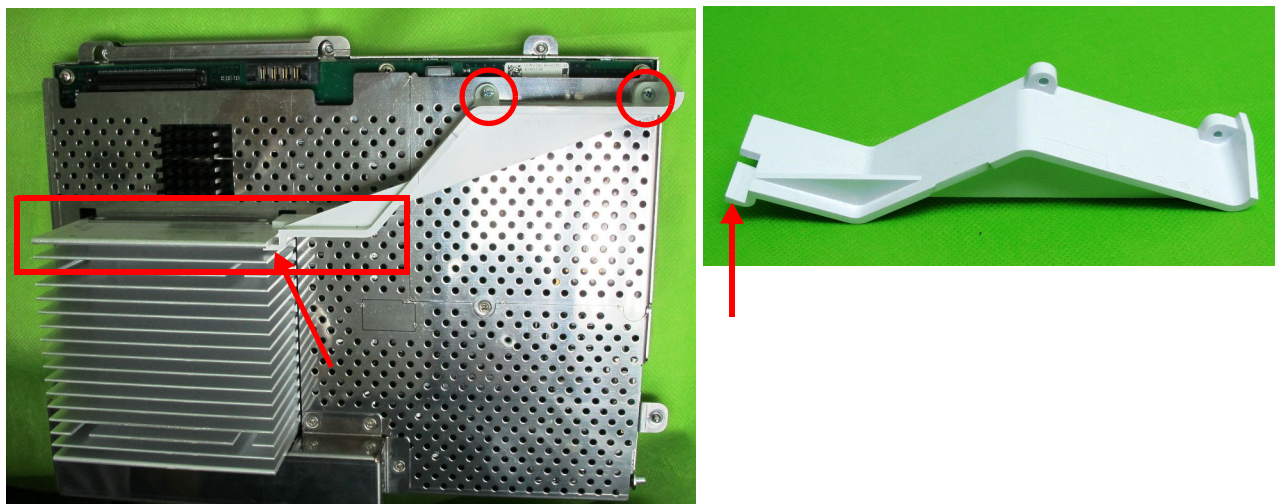

Figure 8-159 CPU Partition on BEP
NOTE: The CPU partition is located on the rear side of the BEP- see Figure 8-159.
3.) Remove the two securing screws (shown in Figure 8-159) that attach the CPU Partition to the BEP.
- 1) Install the replacement CPU Partition on the BEP gently sliding it into position so that its edge engages the BEP as shown in the rectangle in Figure 8-159.